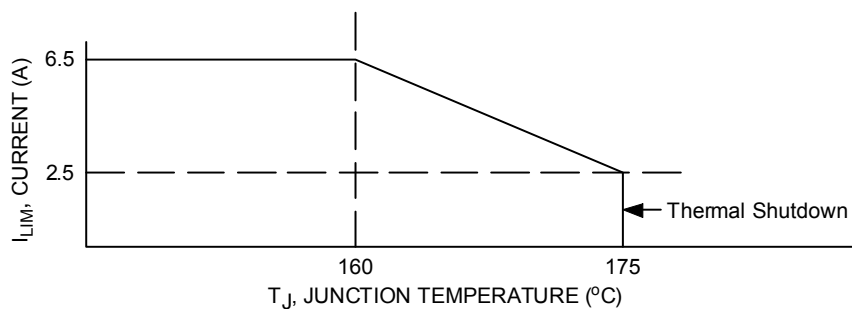
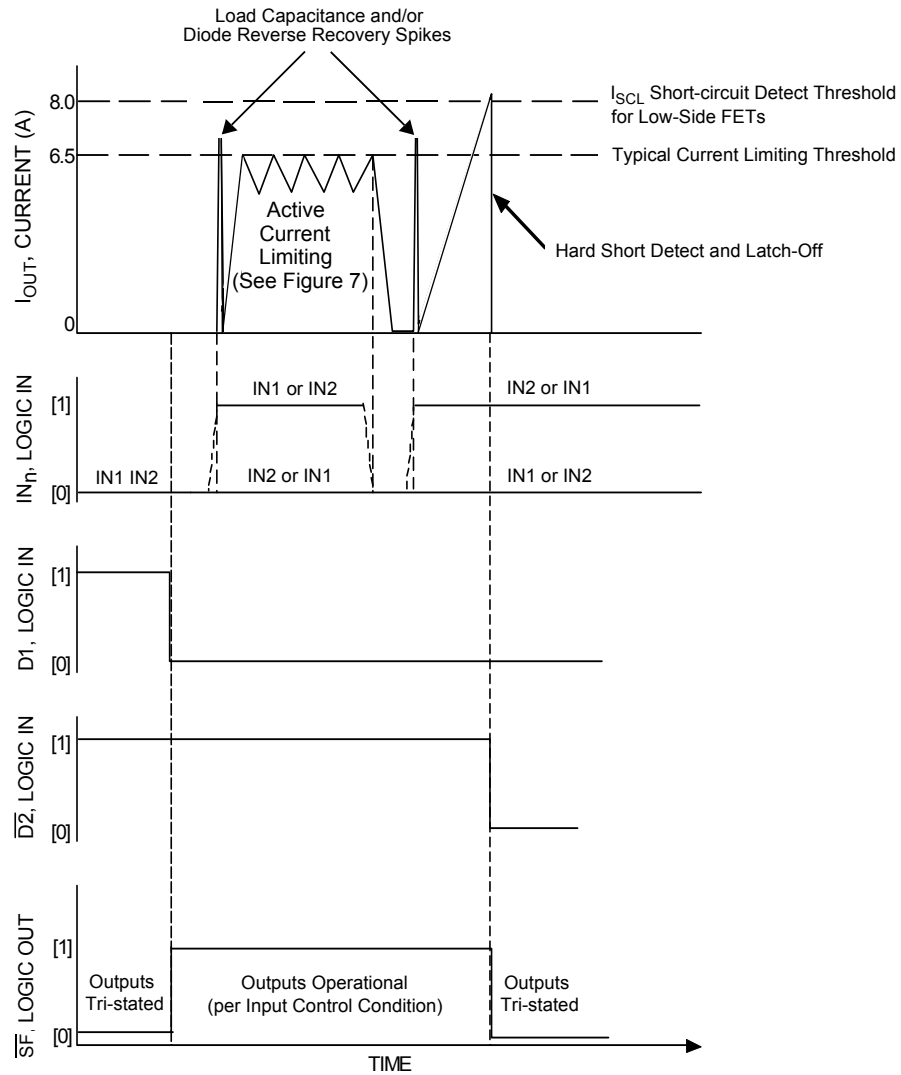

Figure 7. Active Current Limiting Versus Temperature (Typical)
Figure 8. Active Current Limiting Versus Time
26. Increasing currents will become limited at I_{LIM} . Hard shorts will breach the I_{SCH} or I_{SCL} limit, forcing the output into an immediate tri-state latch-OFF. See Figures 8 and 9, page 9. Active current limiting will cause junction temperatures to rise. A junction temperature above 160°C will cause the active current limiting to progressively “fold-back” (or decrease) to 2.5 A typical at 175°C where thermal latch-OFF will occur. See Figure 7, page 8.
The current limiting threshold value is dependent upon the device junction temperature. When $-40\text{ }^{\circ}\text{C} < T_J < 160\text{ }^{\circ}\text{C}$, I_{LIM} is between 5.2 A and 7.8 A. When T_J exceeds $160\text{ }^{\circ}\text{C}$, the I_{LIM} current decreases linearly down to 2.5 A typical at $175\text{ }^{\circ}\text{C}$. Above $175\text{ }^{\circ}\text{C}$ the device over-temperature circuit detects T_{LIM} and over-temperature shutdown occurs (see Figure 7, page 8). This feature allows the device to remain